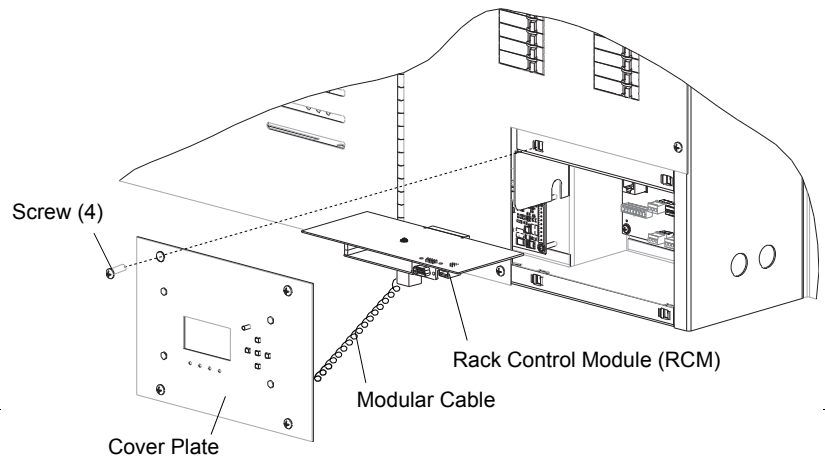

Figure 9: Installing Rack Control Module
- Step 1. At required panel, remove control module cover plate by removing four screws (Figure 9).